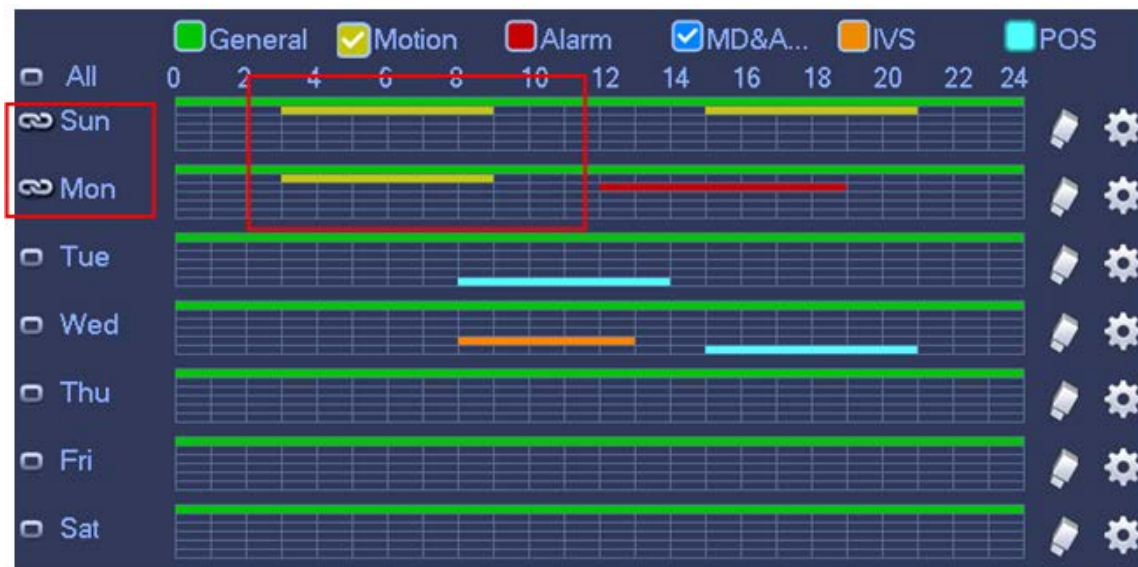

Figure 4-23
- Period setup: Click button  after one date or a holiday, you can see an interface shown as in Figure 4-23. There are five record types: regular, motion detection (MD), Alarm, MD & alarm and IVS.